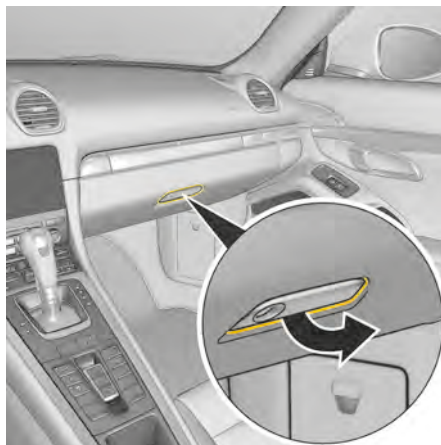

Fig. 152: Opening the glove compartment
- ▶ Pull the handle (Fig. 152) and open the cover.